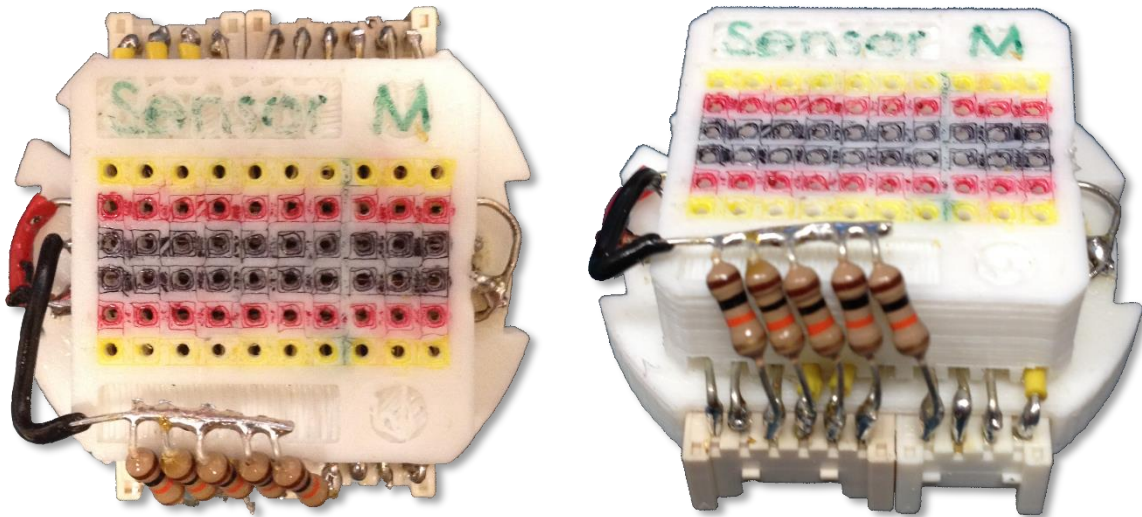

Figure 26: Finished soldered connections for breadboard hub, top and front view
10. Solder the yellow jumper wires to the appropriate receptacle pins, and the 100 k Ω resistors to appropriate receptacle pins as shown in Figure 26: